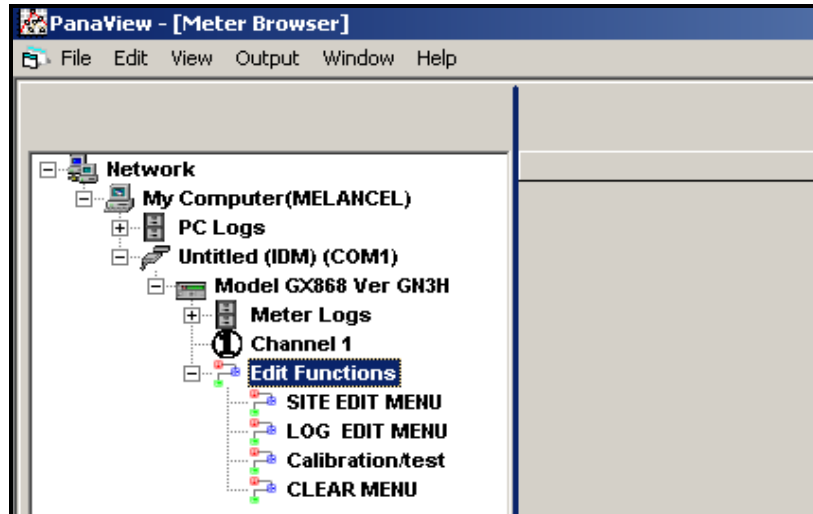

Figure C-19: Meter Tree with *Edit Functions* Option
4. From the meter tree, expand the *Edit Functions* option. The window now appears similar to Figure C-19 below, with a list of available menus. The menus listed are those available on the meter.